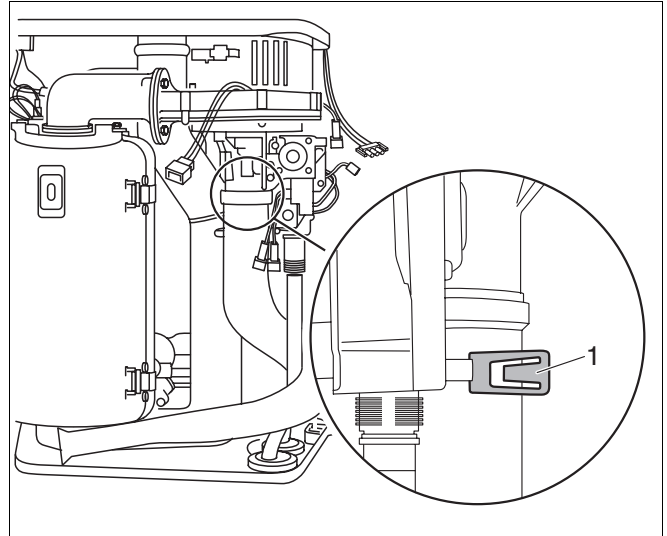

Fig. 56 Replacing the fan on the 600 Series:
- Push the safety plate out of the way (fig. 56, item 1).